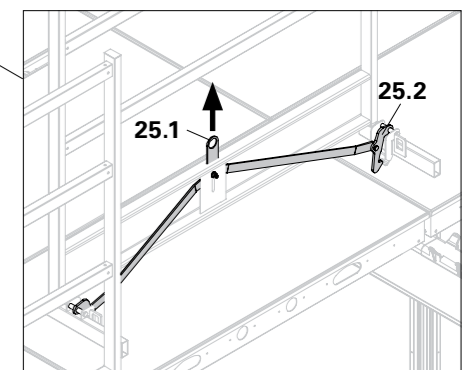

Fig. A8.07
1. Pull lug (25.1) upwards. (Fig. A8.07)
1. Pull lug (25.1) upwards. (Fig. A8.07) → Hooks are released.
2. Lift out Handrail Unit SD (25) and place in Pallet Handrail Unit SD 150 x 75.